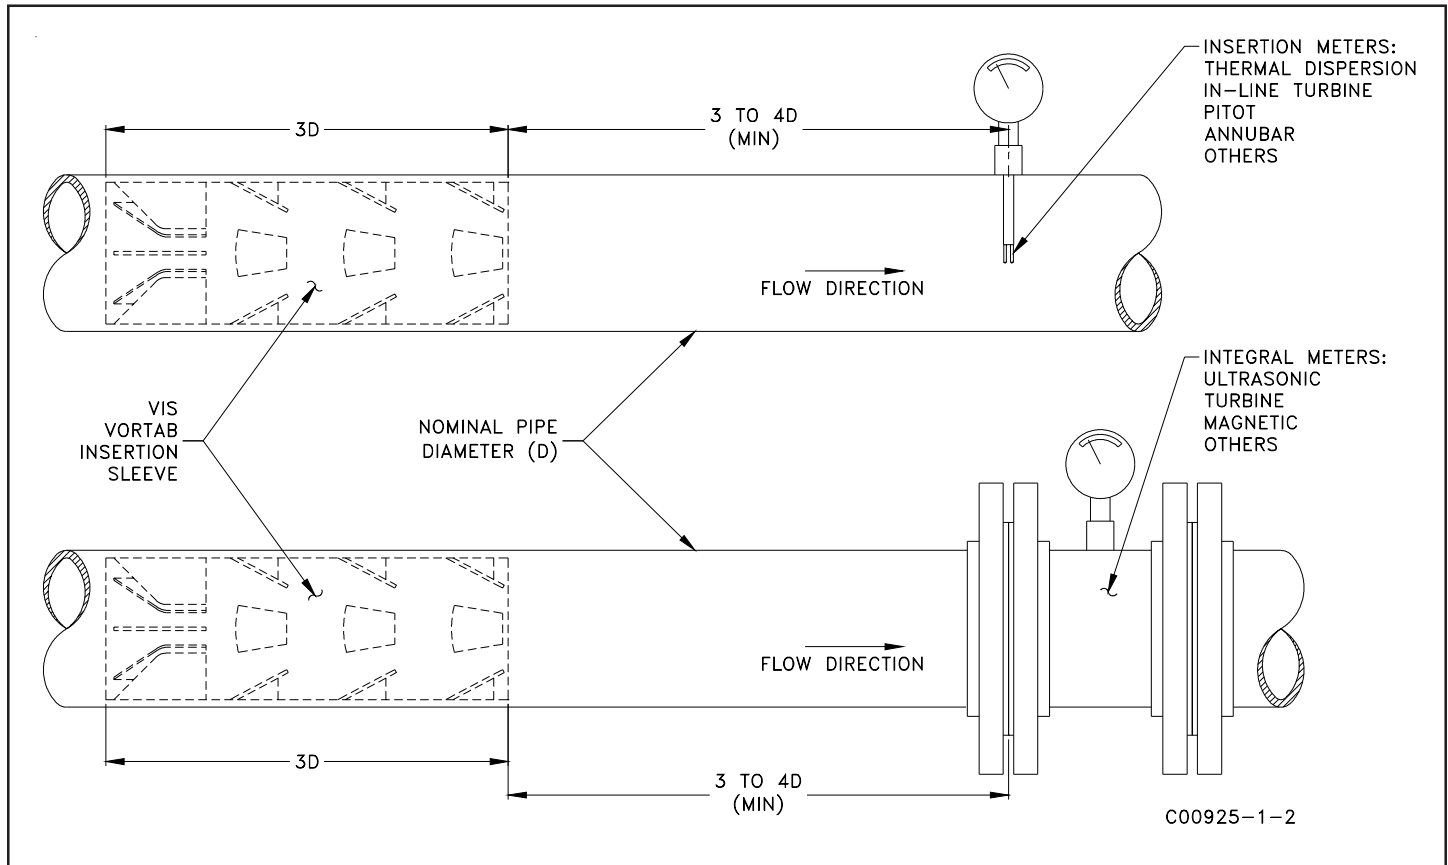

Figure 2-7. Orientation of VIS in Process Pipe or Duct
- The outlet of the VIS must be located three to four nominal pipe diameters (3D - 4D) upstream from the customer meter. The process pipe must continue straight for at least 1 pipe diameter (1D) past the customer meter. See Figure 2-7.